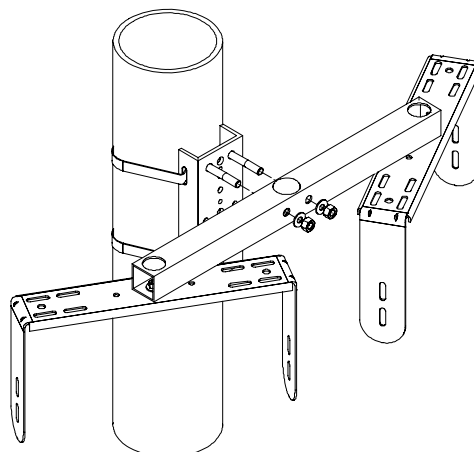

Figure 2: Optional PM-DA Dual Adapter
Step 2: Secure Dual Adapter to Pole Adapter: (Figure 2)